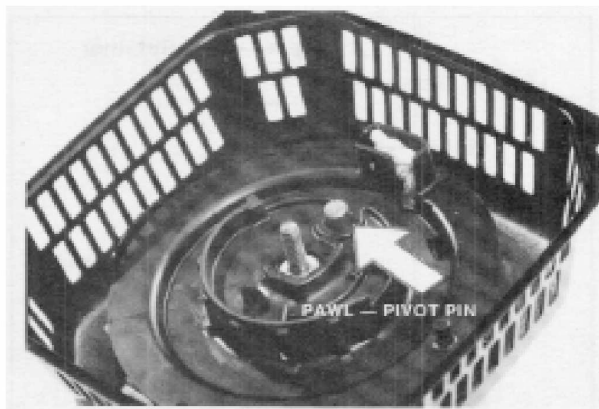

Figure 3-35
7. The starter pawl pivots on the pin shown in Fig. 3-35. Remove the pin.
1. Install the pawl-pivot pin. See Fig. 3-35.